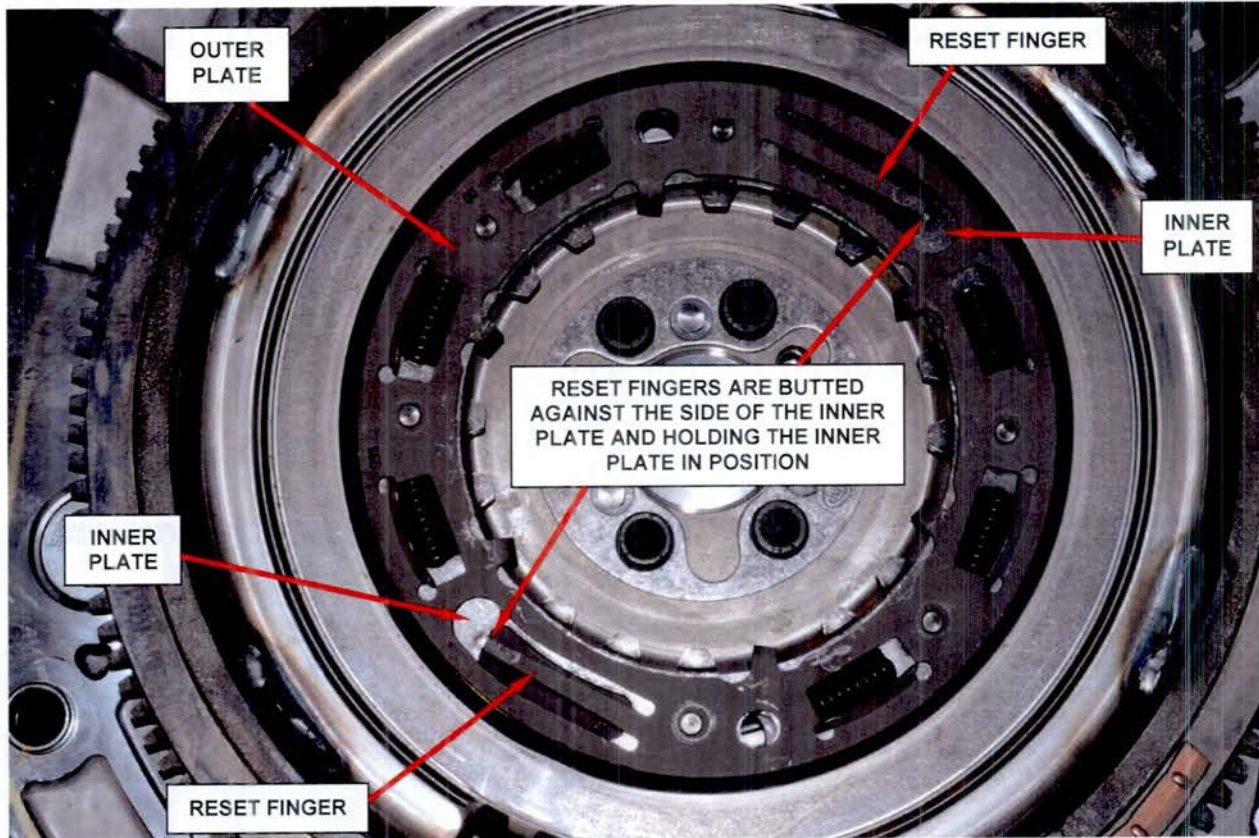

Figure 32 – Correctly Reset Dual Mass Flywheel
- d. Carefully loosen the jack screw and then remove the special tool. A properly reset dual mass flywheel will look like the flywheel shown in Figure 32.